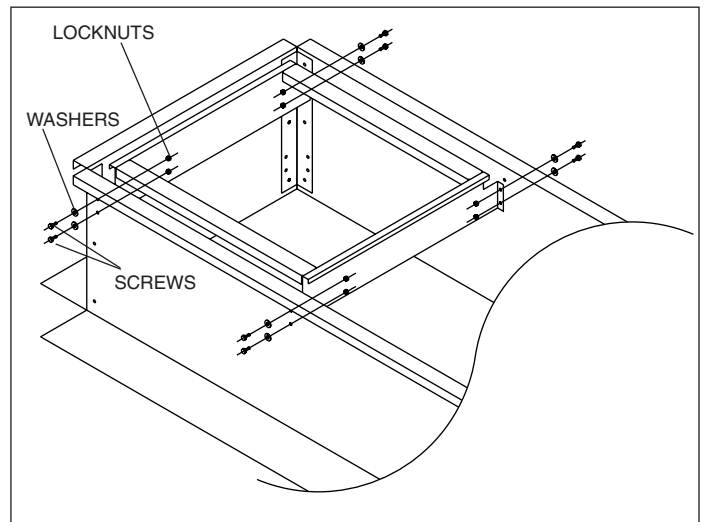

Figure 3.4 - Field Supplied Ductwork Installation
5. Insert the 90° flanged ductwork (by others) into the connector as shown in Figure 3.4. Once the ductwork is inserted, fasten the ductwork to the connector assembly sides (from inside the ductwork) using horizontally driven sheet metal screws (by others).